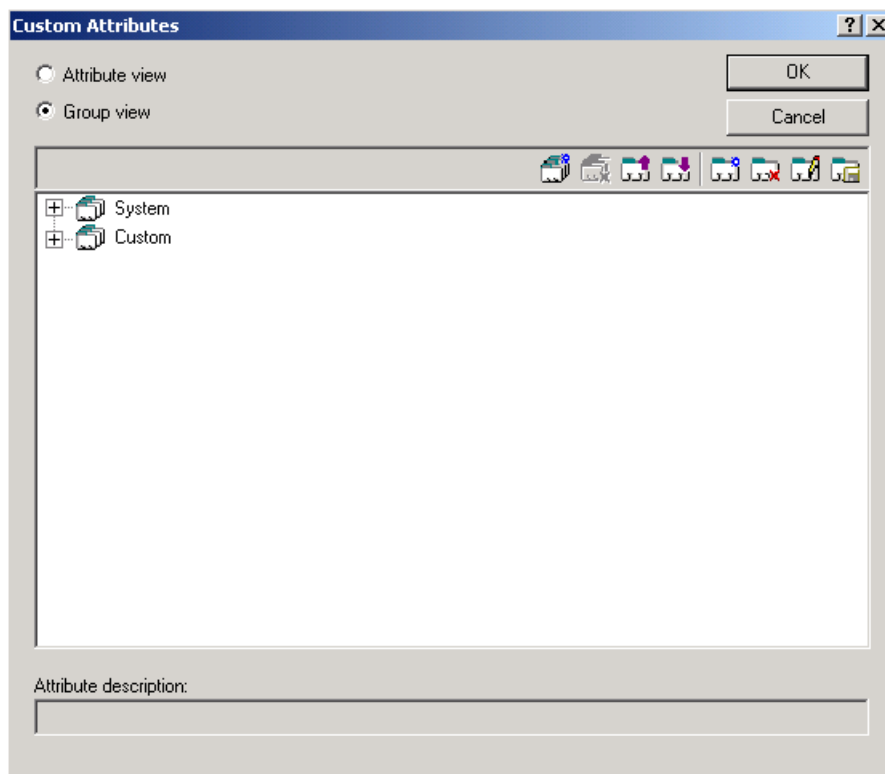

Figure 8-1. Custom Attributes dialog box
4. Select the [New Attribute Set] toolbar button. The Custom Attributes dialog box opens. See Figure 8-1.